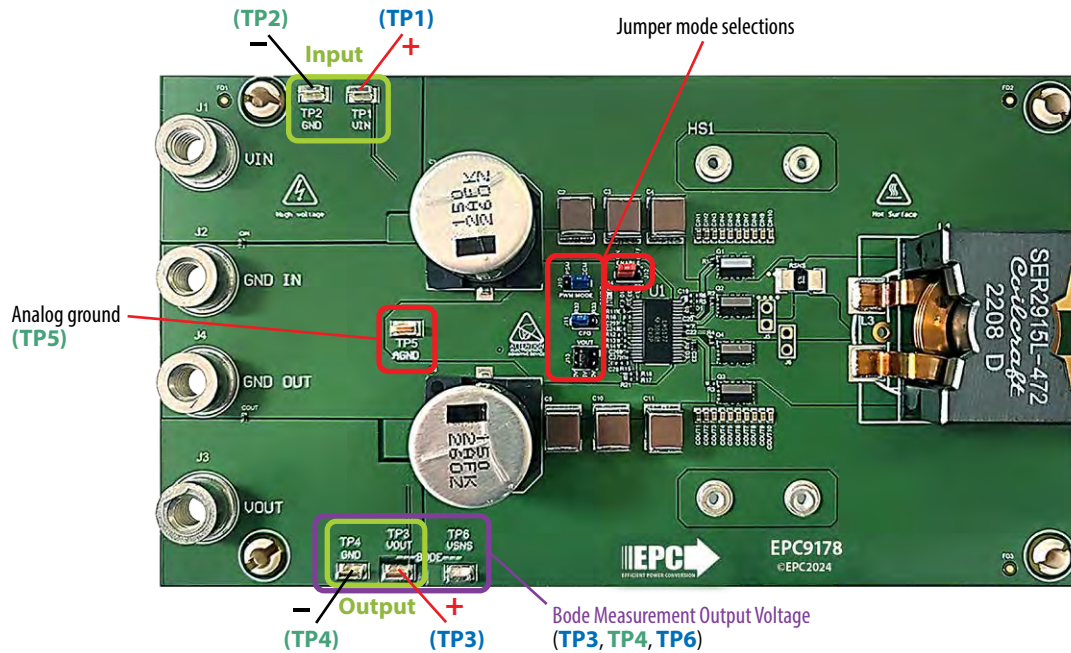

Figure 6: EPC9178 test point pad and hookup locations and designations.
Figures 6 and 7 show the various measurement connections of the EPC9178 evaluation board.
4. With power off, connect the various measurement probes as shown in Figure 6 and 7.